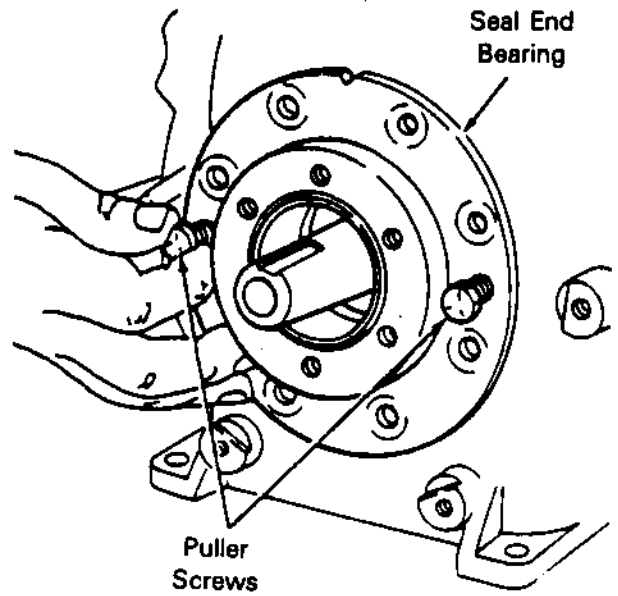

Figure 30 – Removing Seal End Bearing
2. Remove the cap screws (6) from the seal end bearing head.
3. Insert two bearing head screws into the tapped holes in the bearing head (Figure 30). Tighten the screws alternately and evenly to force bearing head (3) out of the compressor housing until the bearing head moves freely, then pull the bearing head out of the housing. It may be necessary to tap the seal end of the crankshaft with a plastic hammer to slip the roller bearing out of the seal and bearing head.
5. Remove O-ring (1) and oil seal (2) from the housing.
2. Install new O-ring (1) on bearing head (3) flush with flange.
4. Slide the bearing head into the housing with the notch on the bearing head at the top (Figure 30).
5. Install the two cap screws at opposite sides of the bearing head and tighten evenly and alternately to draw the bearing head into the housing. Install remaining cap screws (6) in bearing head (3) and tighten to 24 foot-pounds (33 N·m) torque.